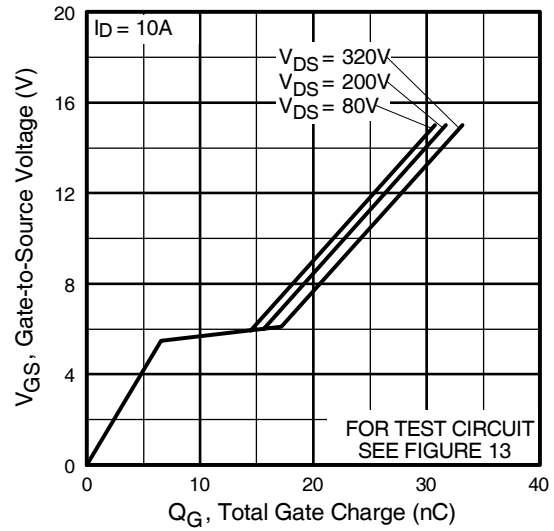

Fig 6. Typical Gate Charge Vs. Gate-to-Source Voltage
| Q_{gd} | Gate-to-Drain ("Miller") Charge | — | — | 16 | | $V_{GS} = 10V$, See Fig. 6 and 13 ④ |